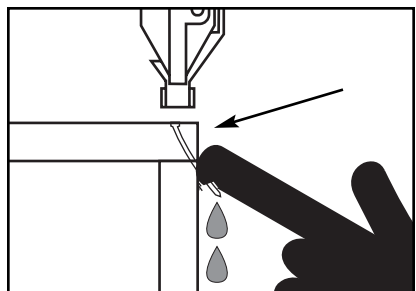

Figure 3. Example of brad nail deflection.
3. Before pressing the trigger, make sure your free hand is positioned out of the way of a potential path of a brad nail in case of deflection. (Deflection is caused when grain irregularities, knots or foreign objects inside the wood cause the nail to change its path, resulting in the nail puncturing the surface of the workpiece as shown in **Figure 3**.)